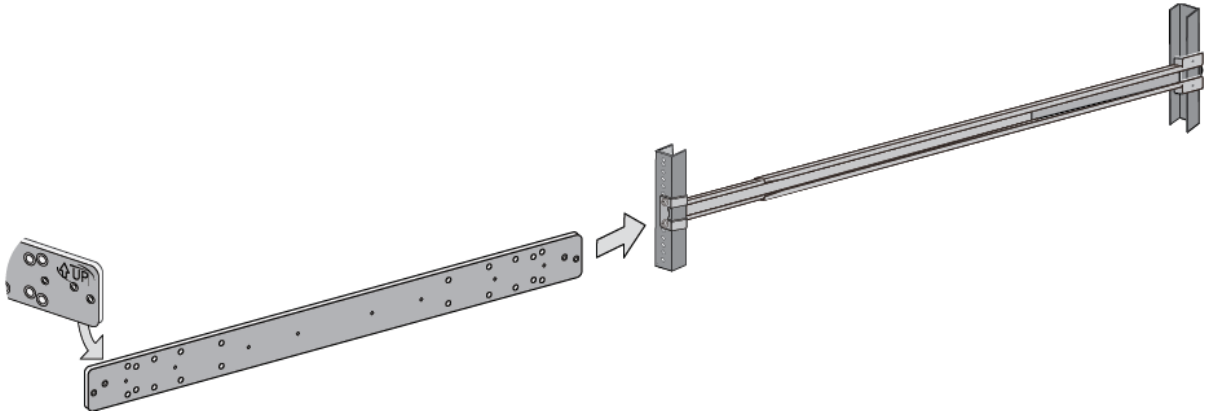

Figure 87. Inserting an Inner Rail into an Outer Rail
1. Slide one of the inner rails into an outer rail. Be sure that the UP arrow on the inner rail is pointing up. Refer to Figure 87 on page 147.